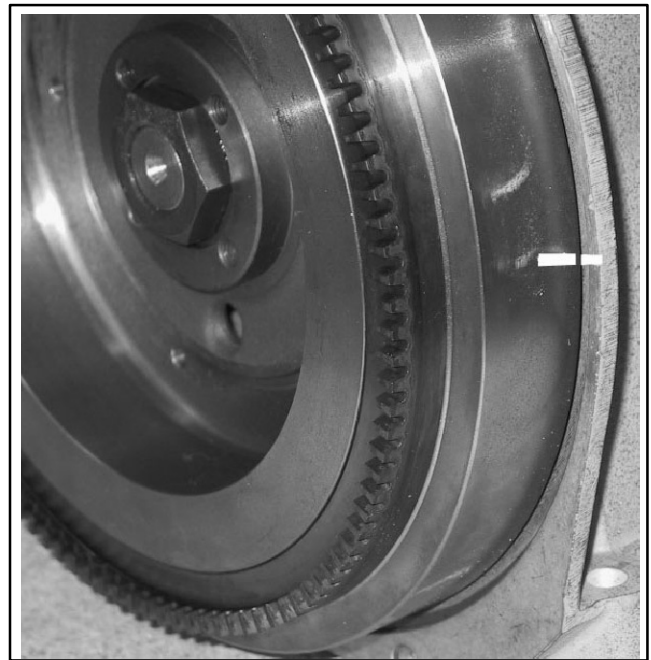

Figure 10-86 Flywheel and Crankcase Marks
1. Move the piston to Top Dead Center (TDC) and check the alignment between the mark on the flywheel and the mark on the crankcase at the 3 o'clock position. See Figure 10-86.